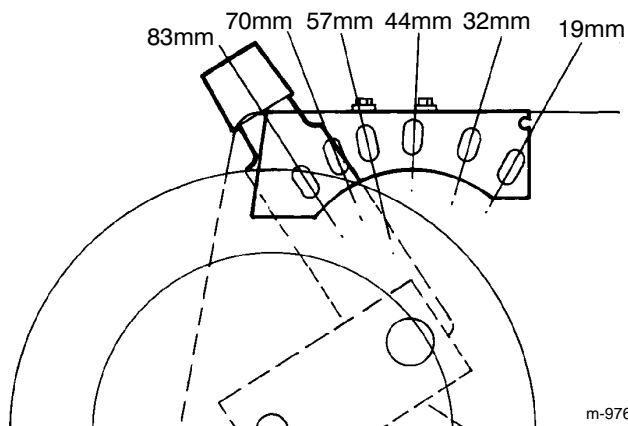

Figure 9
- Grass grows at different rates at different times of the year. In the heat of the summer, it is generally best to cut grass at the 44 mm (1-3/4"), 57 mm (2-1/4") or 70 mm (2-3/4") height-of-cut settings (Fig. 9). Only
The height-of-cut is adjustable from approximately 19 mm to 83 mm ($\frac{3}{4}$ to 3- $\frac{1}{4}$ inches), in 12.7 mm ($\frac{1}{2}$ inch) increments (Fig. 9). Moving height-of-cut adjuster forward raises height-of-cut.